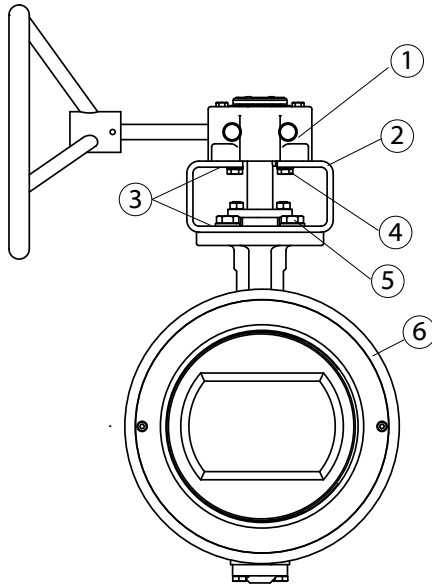

Fig.4-2
Refer to (→ Fig.4-2) for component identification; also refer to the Valve Instructions for specific closed-position requirements for the valve.
Refer to (→ Fig.4-2) for component identification.
2. Remove the four mounting screws (→ Fig.4-2/4) and washers (→ Fig.4-2/3).
1. Put both the gear (→ Fig.4-2/1) and the valve (→ Fig.4-2/6) in the closed position.
2. Mount the mounting bracket (→ Fig.4-2/2) on the valve (→ Fig.4-2/6) tighten the bolts(→ Fig.4-2/5).
4. Tighten the bolts (→ Fig.4-2/4).